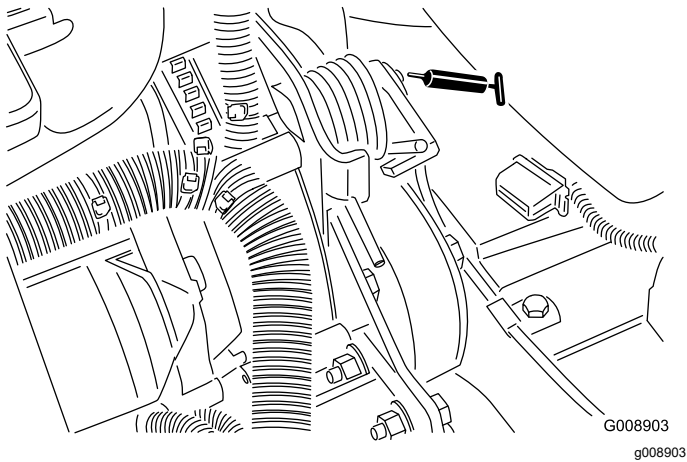

Figure 68
- Belt tension pivot (Figure 68)